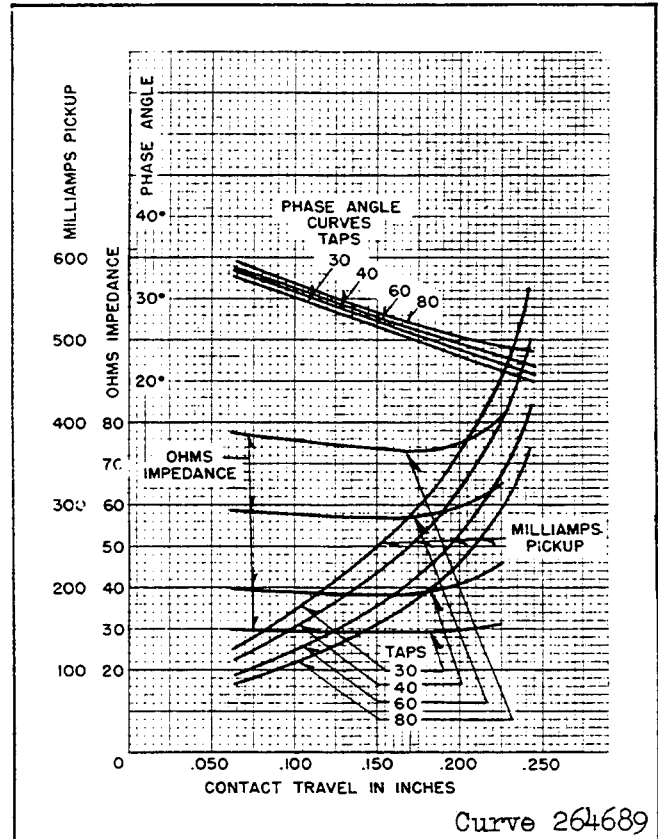
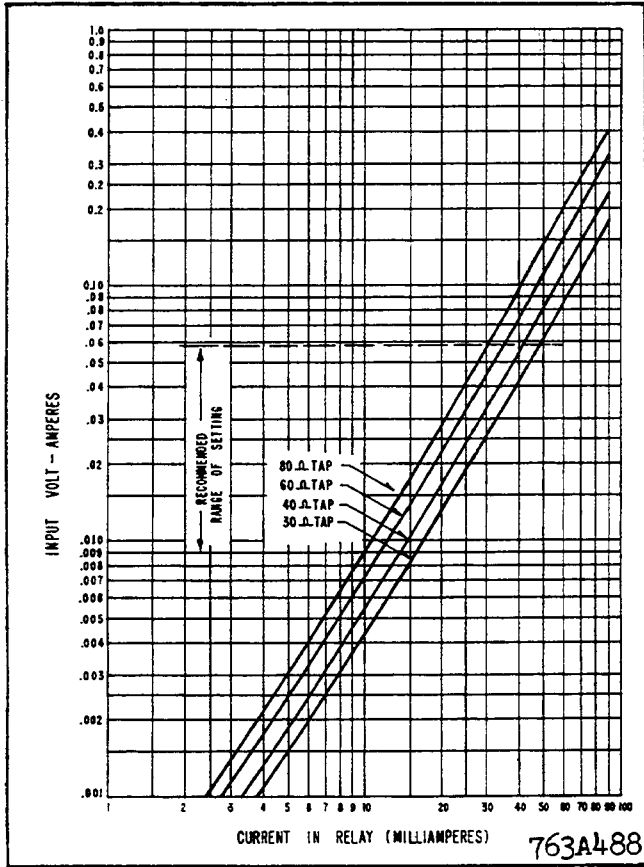
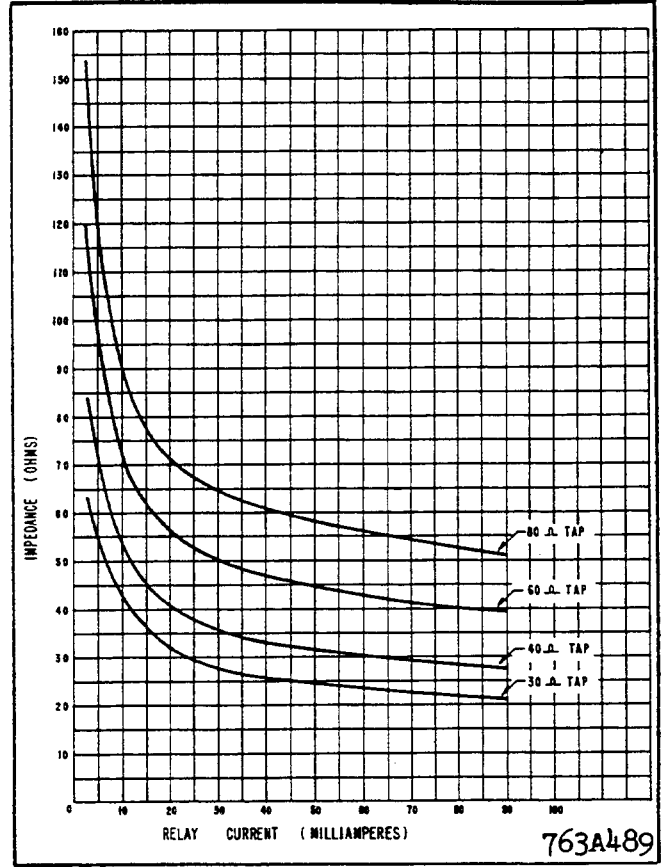

Fig. 4. Typical LC-1 Characteristic Curves.
Fig. 5. Typical LC-2 Volt-ampere Curve.
Fig. 6. Typical LC-2 Impedance Curve (Impedance is at 22° angle).
Characteristic curves are shown in figures 4, 5 and 6. The use of these curves is described under "Setting Calculations". LC-1 sensitivity is about 0.5 V.A. and up. The type LC-2 relay may be set to operate at an energy level ranging from .062 to .0085 volt-amperes. It may also be used to an energy level as low as .0025 V.A. with limitations which will be discussed. This range of application is shown on the typical volt-ampere curves of Fig. 5. Typical impedance curves are shown in Fig. 6. The phase angle of the relay is substantially constant (within 3°) at 22° .
Equation (3) is used to determine the current at which the relay trips for an internal fault on the bus of magnitude, I_p . Equation (4) is used to determine the primary current necessary to trip the relay when it has been adjusted to trip at a known value of relay current. It should be noted, however, that the relay impedance is not constant, but varies with relay current as indicated in Figs. 4 and 6. Therefore, in using equation (3), it is desirable to assume a value of relay impedance equal to the impedance tap, and make a first calculation of the relay current. When this is obtained, a new value of relay impedance should be selected from Fig. 4 or 6 and a second value of relay current calculated. Usually, it will not be necessary to continue the calculation any further, as the values resulting from the second calculation will be sufficiently accurate.
Reference to Figure 4 indicates that the relay can be set to operate at .102 (or 0.100 ampere on either the 60 ohm or 80 ohm tap. Since the desired value is near the minimum obtainable, choose the 60 ohm tap as being the closest match to the value of 57.8 for NZ_C , and make a second more accurate calibration. Using the 60 ohm tap and a contact travel of .075", values read from the curve give a pickup current $I_r = 0.100$; $Z_r = 58.3$ ohms, and an impedance angle of 33° for Z_r .
This is within the recommended setting range of the relay as indicated in Fig. 5.
From Fig. 6, on the 60 ohm tap, at $I_r = .0221$ $Z_r = 54.5 / 22^\circ = 50.6 + j20.4$.
At $I_r = .0232$ on the 60 ohm tap, Fig. 6 indicates that $Z_r = 54$ ohms. Since a value of $Z_r = 54.5$ was used in the above calculation, it is not necessary to carry the calculation any further.
of the connections should be checked. This can be done by circulating a high current from a low voltage high current test set through the Linear Coupler primaries. The polarity can be checked by testing the Linear Couplers in pairs. For example, if 500 amps. is passed from feeder to bus in circuit number 1 (figure 4) and from bus to feeder in circuit number 2, then no voltage should be measured by a suitable low reading voltmeter temporarily connected in series with the Relay-Coupler Circuit. If, however, a reading of 5 volts is obtained ($500 \times .005 \times 2$), it is an indication that one of the Coupler secondaries is reversed. If a zero reading is obtained, this checks the Couplers of circuits number 1 and 2 against each other. Circuit 2 should then be checked against circuit 3, circuit 3 against circuit 4, and so on until all circuits are checked. This should be done for each phase. A high resistance voltmeter should be used, preferably one having a resistance of 1000 ohms per volt, or more. A similar check may be made using load currents in the circuit if these are high enough to give a satisfactory voltage indication.
The small a-c solenoid switch has adjustments for pick-up and drop-out. The pick-up characteristics may be checked against Figure 4 which is a typical curve. This check should not be made, however, until the proper drop-out, or "contact follow" adjustments, has been made. To do this, connect the relay on 30 tap, and pass 130 ma 60 cycles in terminals 8 and 9. See that the plunger is picked up. Loosen the locknut at
There is a residual magnetism effect in this relay unit amounting to approximately .001 ampere on the 80 ohm tap. For this reason it is desirable to calibrate the relay after first applying a polarizing current to it. For example, the relay would be adjusted to trip at .010 ampere on the 80 ohm tap, and would then be momentarily subjected to a current of .250 ampere, which is 25 times minimum pickup. The minimum trip current would then be checked and the relay adjusted to trip at .010 ampere. After another momentarily applied polarization of .250 ampere the minimum trip would be rechecked. This process would be repeated back and forth until there were no change in the minimum trip current of .010 ampere after polarization. This manner of calibration is especially important at the low values of minimum trip currents, since the same residual magnetism effect of approximately .001 ampere would amount to a 20 percent change in the minimum trip setting if the relay were set for 5 milliamperes on the 80 ohm tap. It is for this reason that the lower limit of the recommended range of settings has been shown at .010 ampere for tap 80. The limit for the other taps is at the same value of voltamperes. It is possible, however, to set the relay down to an energy level of .0025 voltamperes as indicated on curve of Fig. 5. On the other taps, the residual magnetism effect is equal to